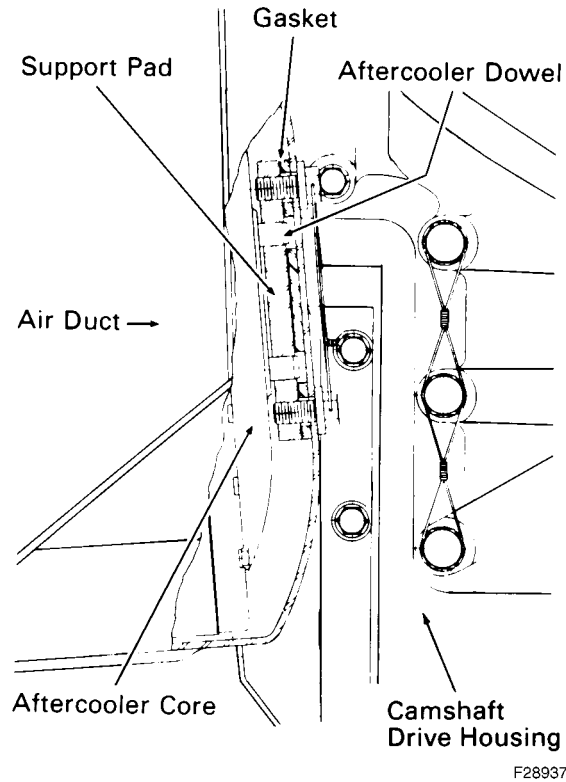

Figure 10-8. Air Duct Support Pad Application .
4. Line up the support pad bolt holes, Figure 10-8., on page 10-11, at the back of the air duct and apply, but do not tighten the support pad bolts.
6. When the aftercooler flange bolts have been tightened, tighten the support pad bolts at the back of the air duct, Figure 10-8., on page 10-11, to specified value, and lockwire.